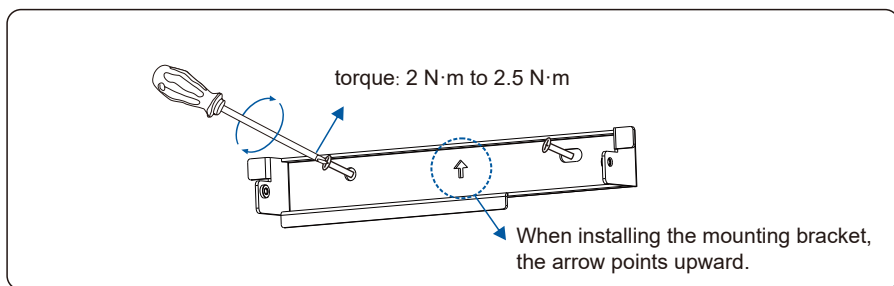

Figure 4.13 Installing the mounting bracket
Step 5 Align the mounting bracket with the holes, insert expansion bolts into the holes through the mounting bracket, and tighten the expansion bolts with a torque wrench (torque: 2 N·m to 2.5 N·m), as shown in Figure 4.13.